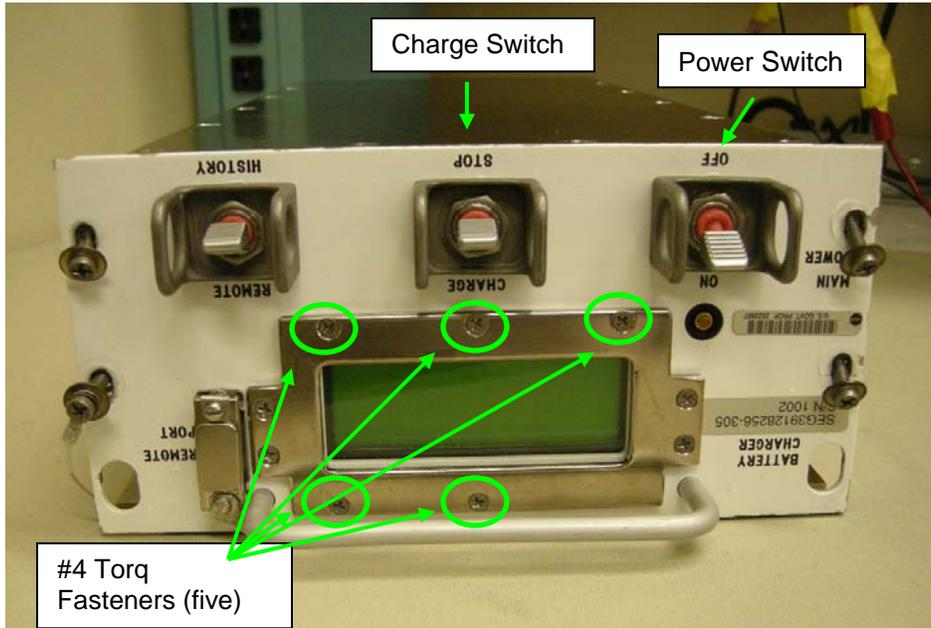

Figure 6.- Face Plate of BCM
- 3.1 Remove non-captive fasteners (five) as shown in Figure 6 (Driver Handle, 1/4" Drive; 1/4" to 3/8" Adapter; #4 Long Torq Driver, 3/8" Drive).
Refer to Figure 6.
- 3.8 Remove Power Switch non-captive nut, locking washer, switch guard (Driver Handle, 1/4" Drive; 9/16" Deep Socket, 1/4" Drive). Refer to Figure 6. Stow non-captive hardware on gray tape.